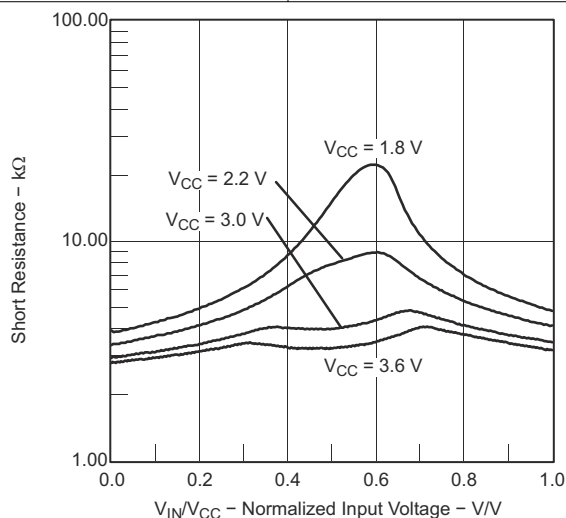

图 8-37. Short Resistance vs V_{IN}/V_{CC}
(1) The leakage current for the Comparator_A+ terminals is identical to I_{lkg(Px,y)} specification.
(2) Also see 图 8-34 and 图 8-37.
(3) The input offset voltage can be cancelled by using the CAEX bit to invert the Comparator_A+ inputs on successive measurements. The two successive measurements are then summed together.
(4) The response time is measured at P2.2/CAOUT/TA0/CA4 with an input voltage step and with Comparator_A+ already enabled (CAON = 1). If CAON is set at the same time, a settling time of up to 300 ns is added to the response time.